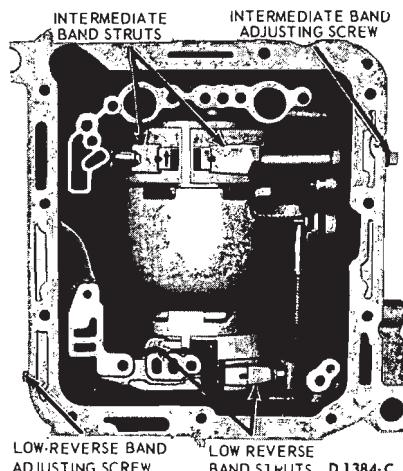

FIG. 31—Band Adjusting Screws and Struts—Typical
7. Loosen the intermediate band adjusting screw (Fig. 31) and remove the intermediate band struts from the case. Loosen the low-reverse band adjusting screw and remove the low-reverse band struts.